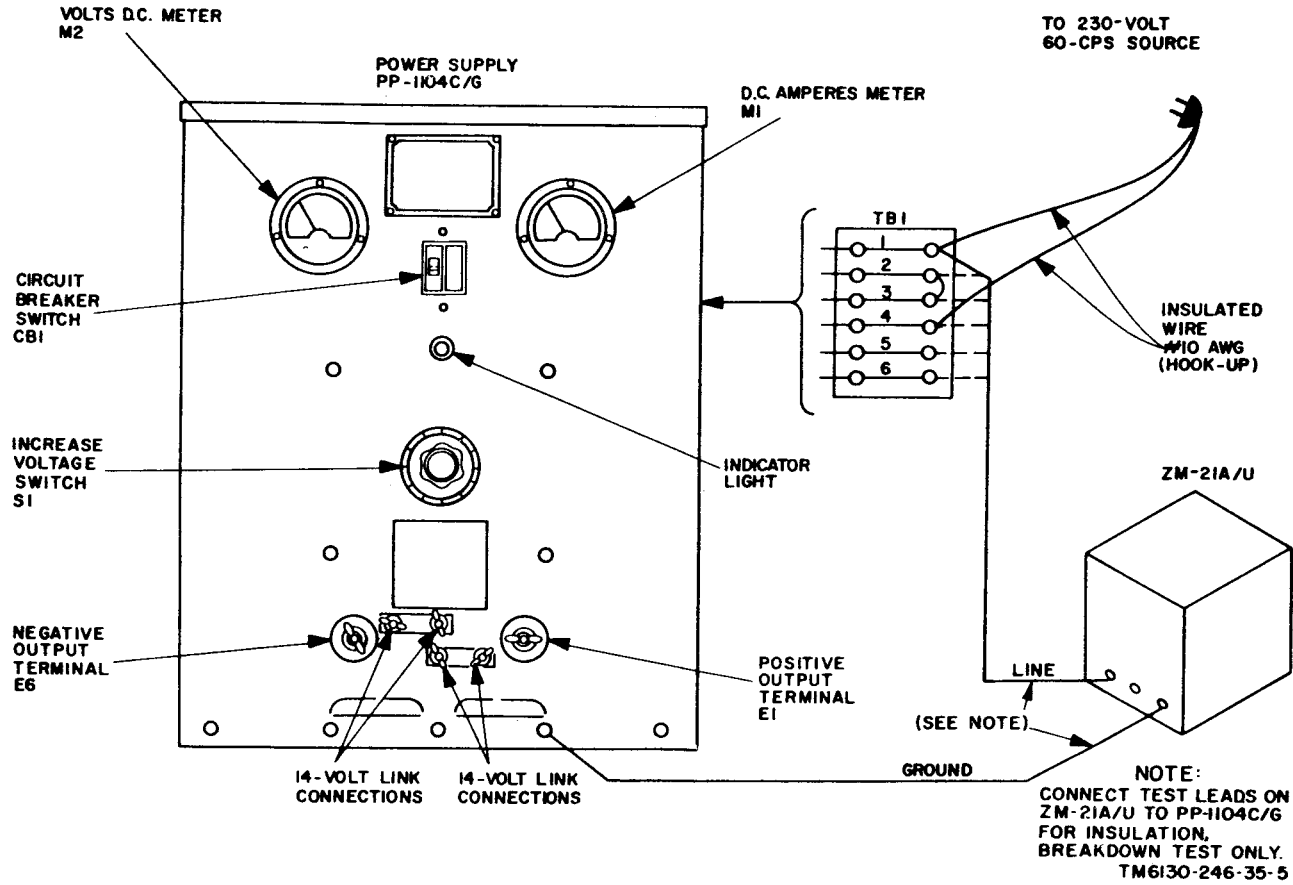

Figure 4-3. Two hundred and thirty-volt operation and insulation test connection diagram.
b. Test Connections and Conditions. Connect the equipment as shown in figure 4-3. Do not connect the test leads on ZM-21A/U to PP-1104C/G until instructed to do so in step 2 of the procedures given in *c* below. This test is written for 230-volt ac operation.